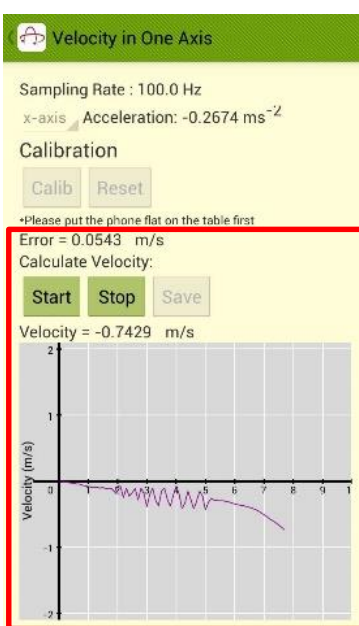

Fig 5.4
- The value of error will be shown after calibration. Press “Start” to begin measurement. The velocity against time will be plotted and the value of instantaneous velocity up to 4 decimal places is shown above the graph (Fig 5.4).